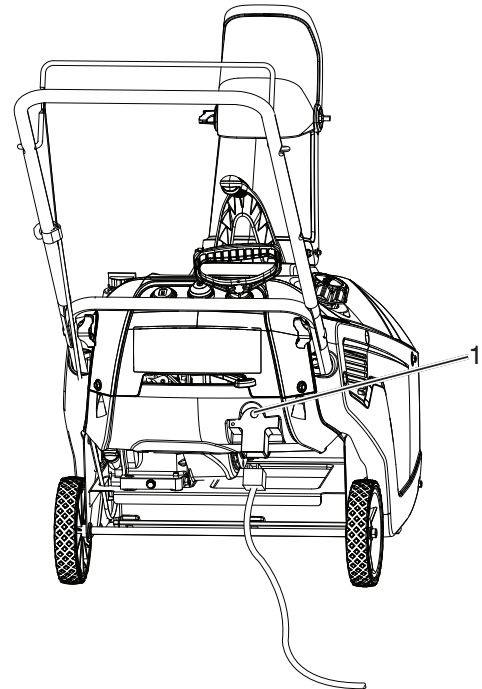

Figure 13
4. Connect an extension cord to the snowthrower and plug the other end into a three-hole grounded 120 volt A.C. receptacle and push the electric-start button (Figure 13), or pull the recoil start handle (Figure 14).
6. Unplug the extension cord from the power source and the snowthrower (Figure 13).